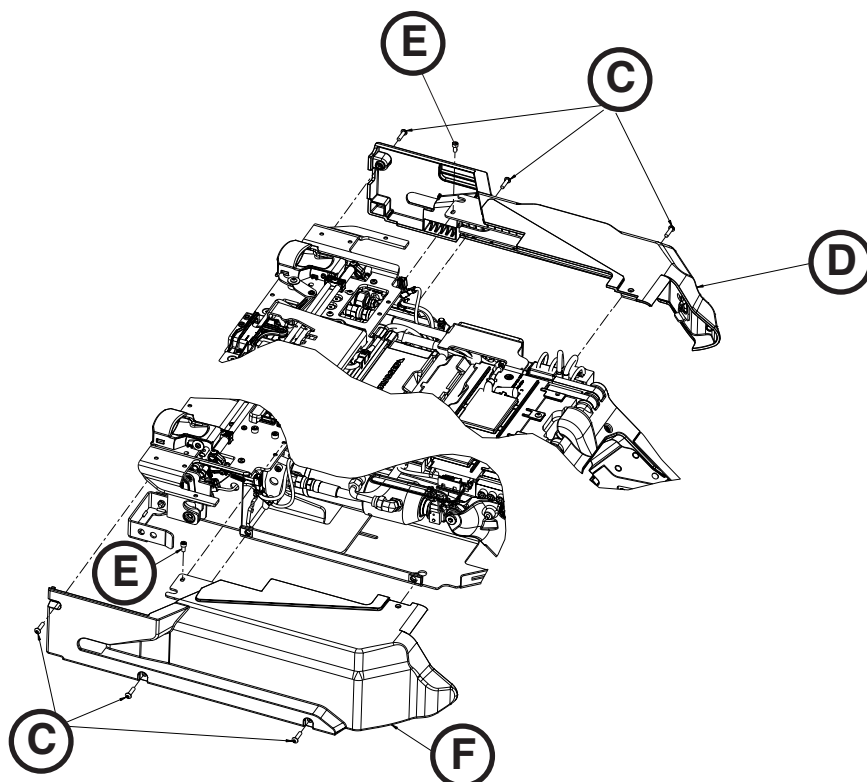

Figure 63
2. Using a T25 Torx driver, remove the three screws (C) left side cover (D) (Figure 63).
3. Using a 5/32" hex wrench, remove one Allen screw (E) from the top of the left side cover (D) (Figure 63).
5. Repeat steps 2-4 to remove the side cover, right (F) (Figure 63).